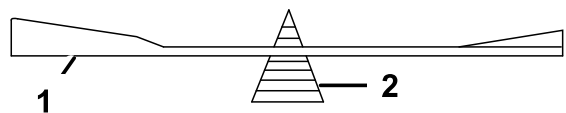

Figure 50
2. Check the balance of the blade by putting it on a blade balancer (Figure 50).